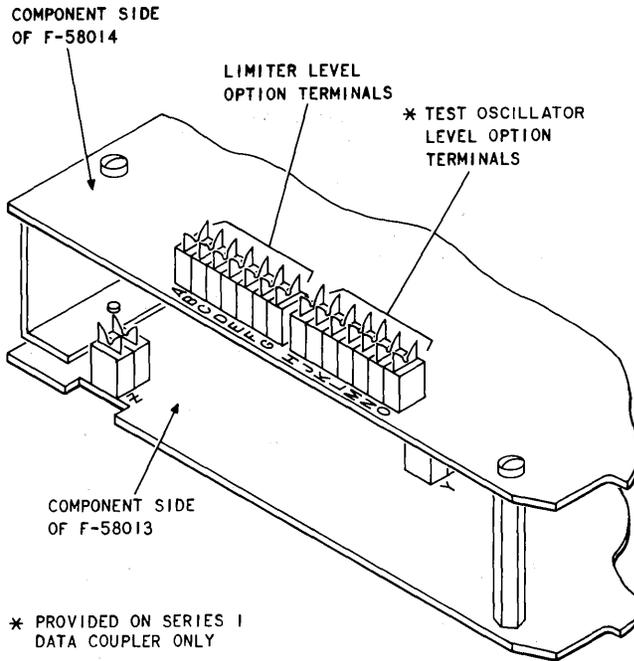

Fig. 2—Location of Level Option Terminals on Circuit Packs
2.03 The wiring options listed on the service order must be wired in the unit. See Table A and Fig. 2 for options available and location of option terminals.
2.10 The option terminals are located on circuit pack F-58014 (Fig. 2). (Existing straps should have been removed when performing the tests in 2.08 and 2.09.) Strap the proper terminals using 24-gauge bare wire, firmly seated to insure good contact. An example of strapping a Series 1 coupler when test results indicate an 8.5-dB loss in loop and coupler and a measured value of -15 dBm from impedance matching test is as follows: